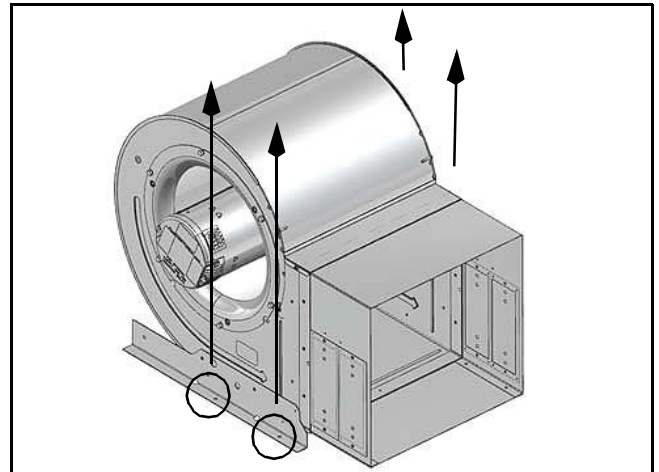

Fig. 13
4. Loosen the blower assembly by removing the four screws securing it. (See Fig. 13.)